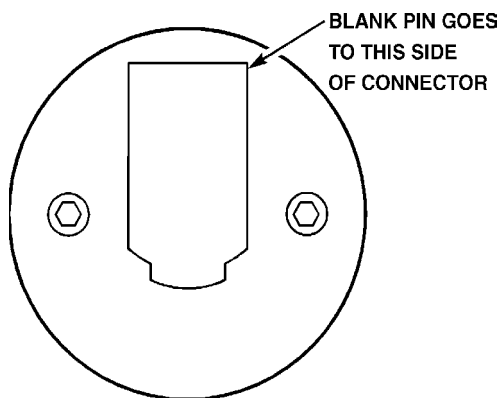

Fig. 5-2 Jog handle encoder.
4. Unplug the cable leading to the jog handle encoder. **IMPORTANT!** The blank pin side of the connector must face as shown in Fig. 5-2 when reconnecting; otherwise, damage may occur to the machine.